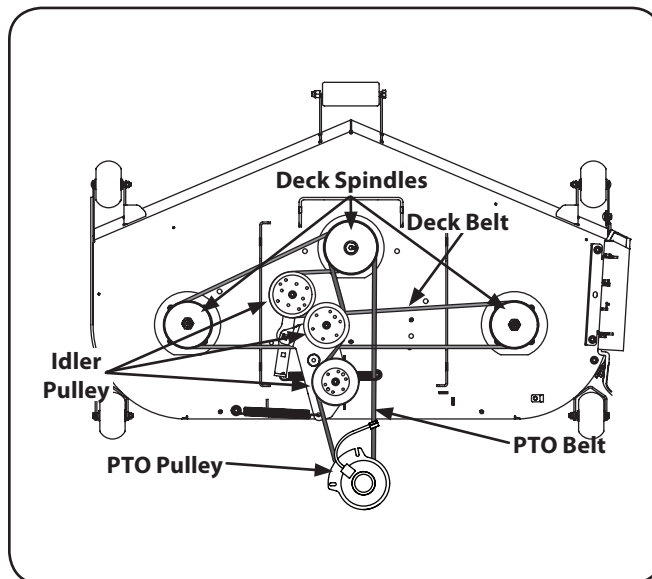
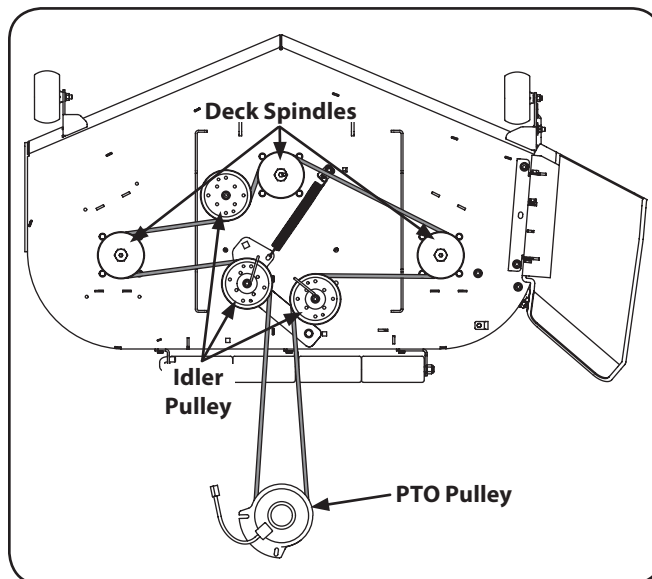

Figure 7-9
Figure 7-10
6. Route the belt as shown in Fig. 7-9 for Z-Force S60 and Fig. 7-10 for the Z-Force S48. After routing the belt around the PTO pulley, use a ½" drive in the idler pulley bracket and turn towards the front of the tractor to finish routing the belt around the idler pulley.
3. Remove the belt from the deck spindles. Refer to Fig. 7-9 for Z-Force S60 and Fig. 7-10 for the Z-Force S48..
4. Install the new belt around the spindle pulleys as shown in Fig. 7-9 for Z-Force S60 and Fig. 7-10 for the Z-Force S48 and reinstall the belt covers.